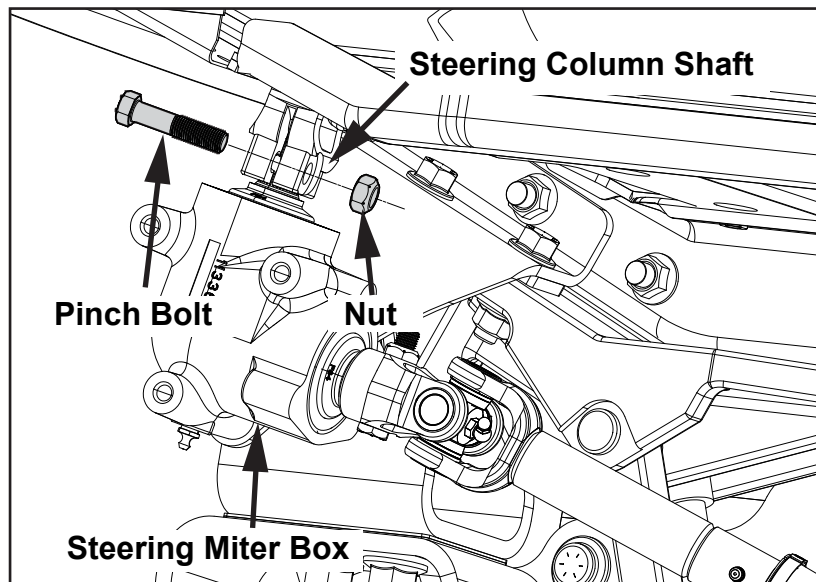

Figure 5
7. Locate the steering miter box and steering column shaft (see Figures 5 and 6).